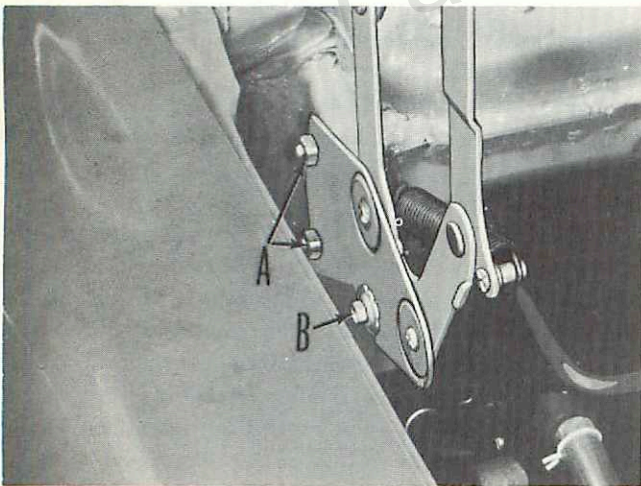

Figure 8—Hinge-to-Cowl Screws
**REMOVAL**—Remove the hood-to-hinge screws. Loosen the screw (B, Fig. 8) attaching the lower half of